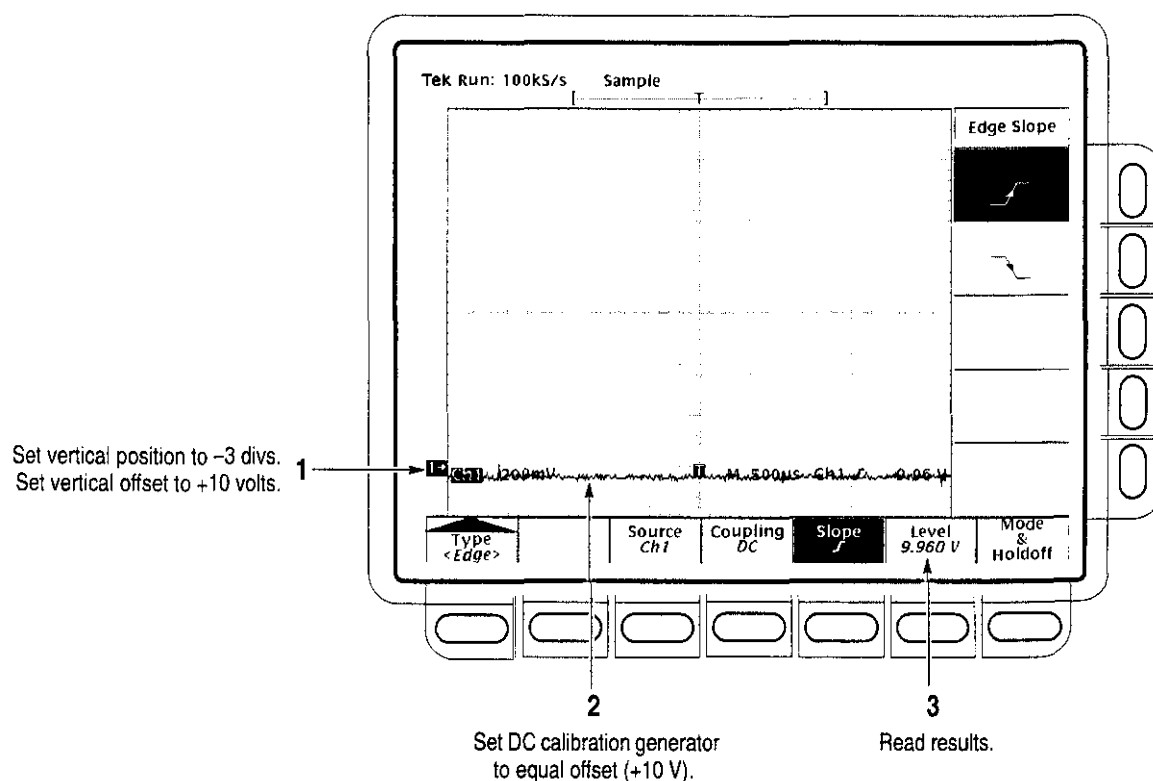

Figure 1-16: Measurement of Trigger-Level Accuracy
- Set vertical position to -3 divisions (press **-3**, then **ENTER**, on the keypad.) The baseline level will move down three divisions. See Figure 1-16 on page 1-49.
- Set the standard output of the DC calibration generator equal to the offset (+10 volts). The DC test level will appear on screen. See Figure 1-16.
c. *Read results (Check against limits):* See Figure 1-16.